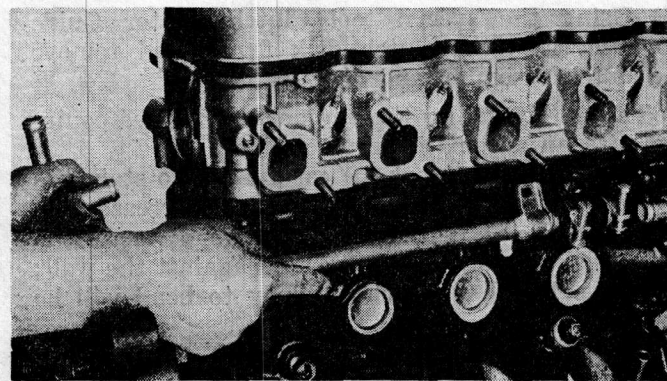

Fig. 21 Removing the Heater Pipe
(20) Remove the heater pipe assembly connecting the water pump to the intake manifold. (Fig. 21)
(21) Remove the oil pump cover and then the rotor assembly.